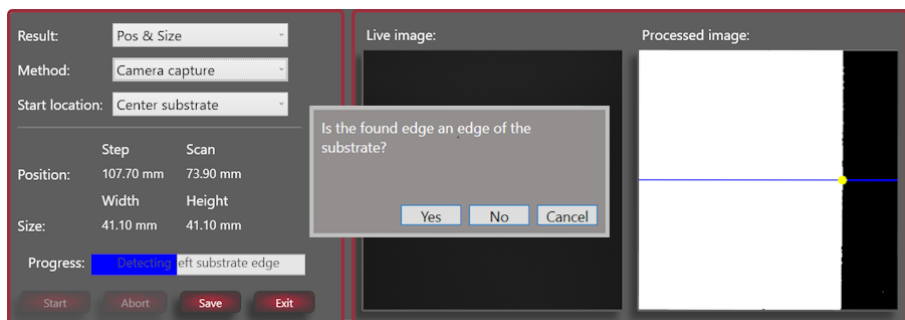

Figure 3-23 Detecting the first edge
9.2. When the first edge right of the starting position is found, check the **Processed image** window to see if this is a real edge, see Figure 3-23.